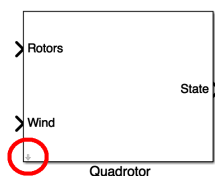

Figure 1: How to look under the masks
- **How to use this guide:** This user's guide and the toolbox were built to be scalable: users can easily take and/or modify single simulink subsystem blocks to improve them or to use them in other projects without compromise the whole code, each block has its own detailed description in the following paragraphs, which can be read separately. Each main block has a configurable mask, to look after the mask and to take single subsystems, click on the icon enlightened in Figure 1.